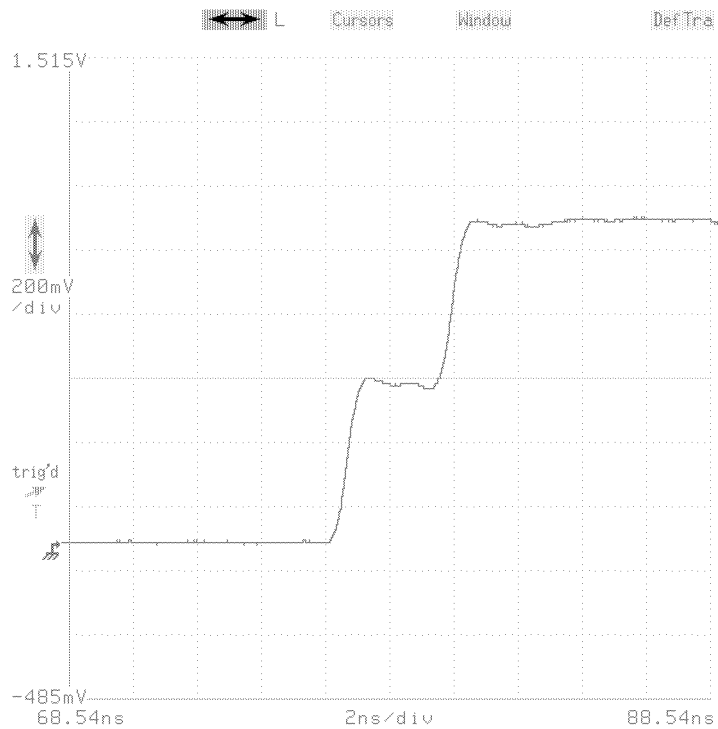

Figure 14: TDR Step and Reflection
- Step 7:** Adjust the display sizes and positions to show a trace similar to that shown in Figure 14. You can also use AUTOSET and the vertical (\updownarrow) and horizontal (\leftrightarrow) icons to perform the fine adjustments.